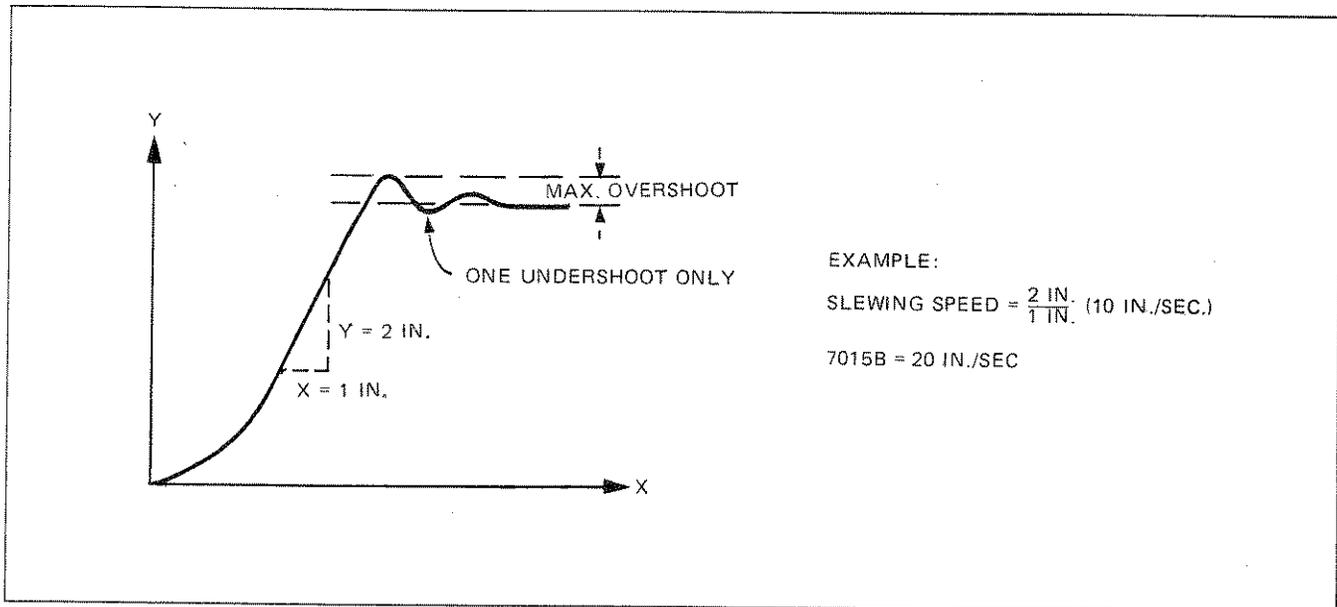

Figure 4-5. Y-Axis Slewing Test Plot
j. The slope of the straight line portion of the plotted curve shall be equal to or greater than two. Maximum overshoot specified is 0.14 in. (0.36 cm). The recorded plot should appear similar to Figure 4-5.